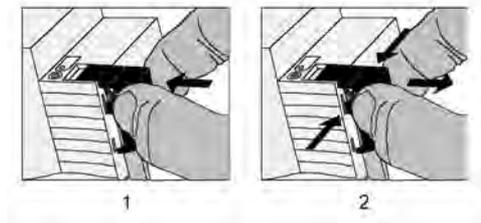

Figure 6: Installing / removing the protective cap for the bus connection
- To install the cap: Slide the cap over the bus connecting terminal until you feel it engage (figure 6).
- To remove the cap: Remove the cap by pressing the sides slightly and by pulling it out to the front (figure 6).